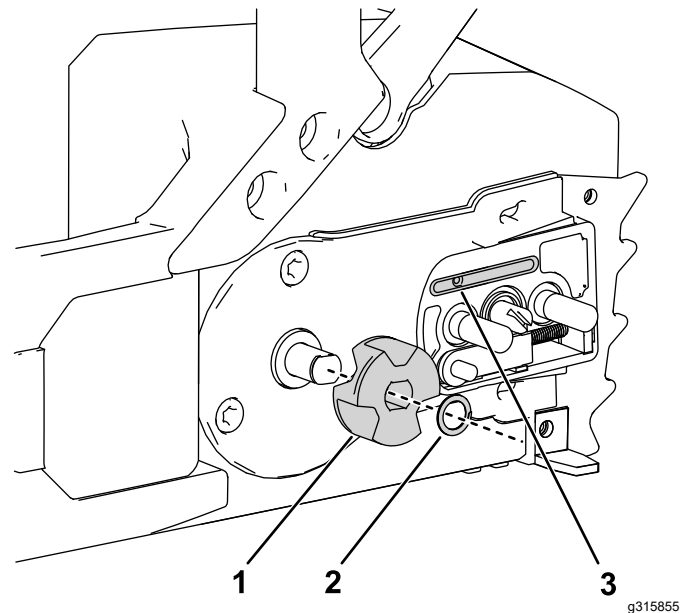

Figure 32
5. Remove the clip and drive sprocket from the chain saw (Figure 32).
9. Check the oil outlet (Figure 32) for debris and clean the area if necessary.